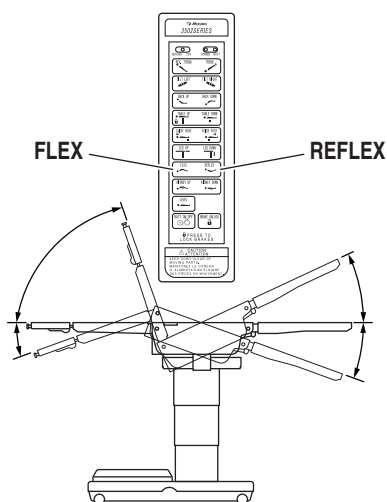

Figure 2-15. Flex/Reflex Positioning
h. Flex Positioning To place the table top in a flex position from horizontal, press the FLEX button (figure 2-15). To return the table top to a horizontal position or into a reflex position, press the REFLEX button.